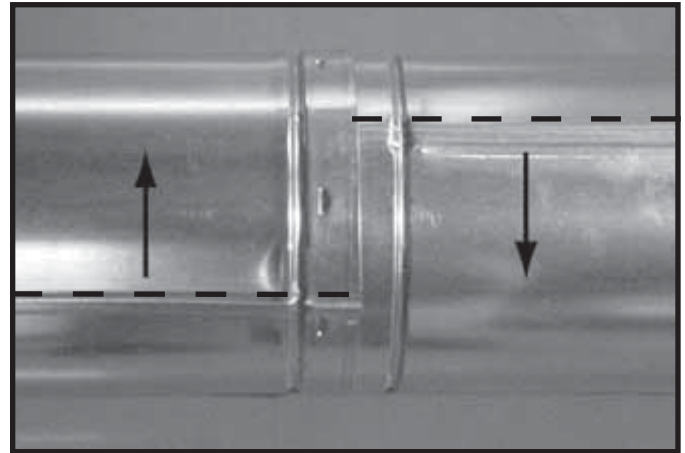
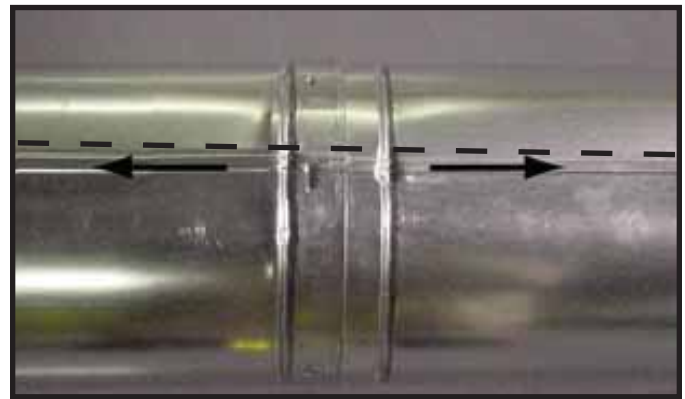

Figure 8.10 Rotate Seams for Disassembly
Figure 8.11 Align and Disassemble Vent Sections
- Rotate either section (see Figure 8.10) so the seams on both pipe sections are aligned as shown in Figure 8.11.